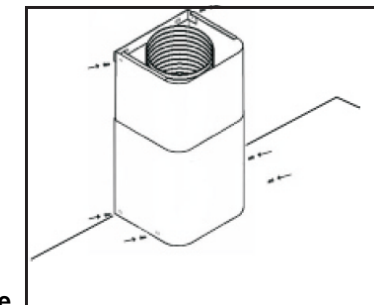

Fig. 2f
- o. Secure it with the (2) duct cover screws provided. (**Fig. 2f**)